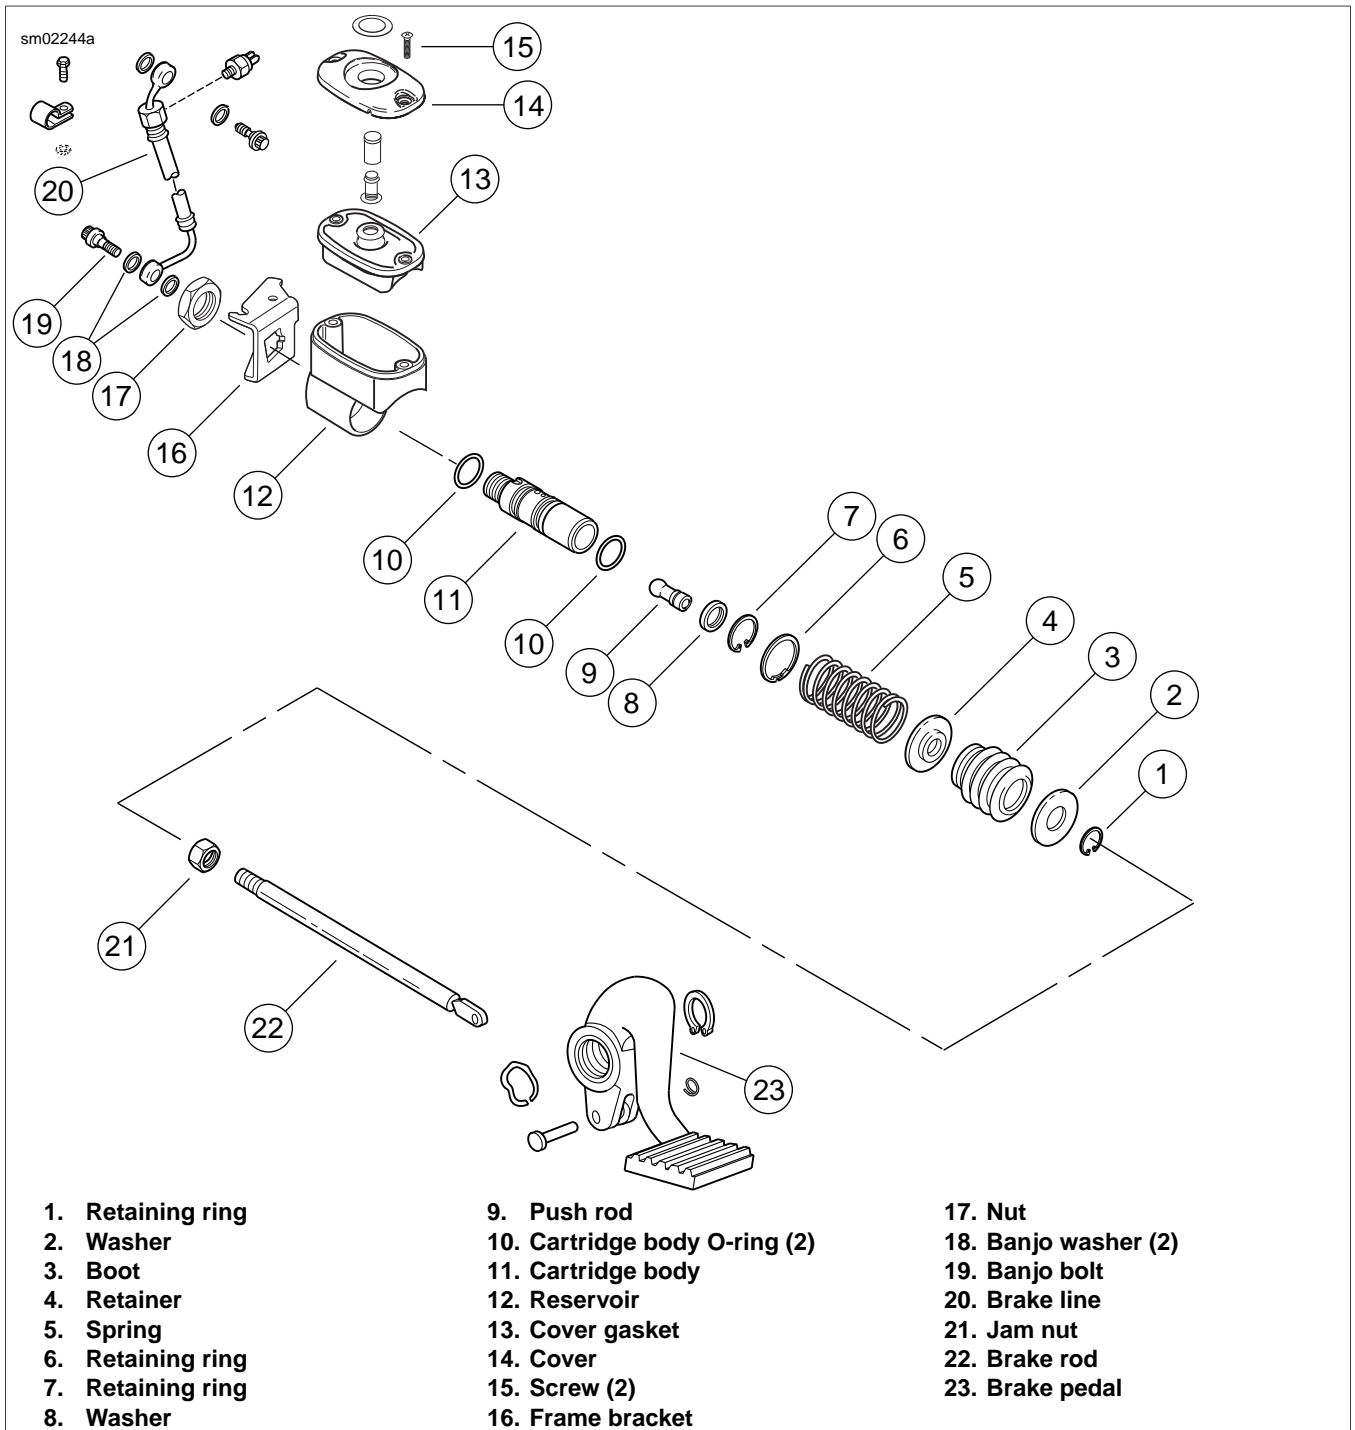

Figure 2-74. Rear Brake Master Cylinder
1. See Figure 2-74. Remove banjo bolt (19) and banjo washers (18). Discard washers.
2. Remove master cylinder mounting nut (17).
3. Loosen jam nut (21) on threaded brake rod (22).
4. Unscrew push rod (9) from brake rod.
2. See Figure 2-74. Thread banjo bolt (19) into the cartridge body (11).
3. Remove boot (3) from groove in master cylinder/reservoir (12). Set master cylinder/reservoir upright with banjo bolt resting on bench and push master cylinder/reservoir down and off the cartridge body.
5. Press down on large washer (2) to compress spring (5), keep spring compressed and remove retaining ring (1) from groove in push rod (9).
6. Carefully release spring and remove washer, boot, spring retainer (4) (inside boot) and spring.
7. Remove and discard retaining ring (7) from bore of cartridge body and remove push rod and washer (8).
2. See Figure 2-74. Inspect reservoir bore (12) for scratches. Replace if scratches are present.
3. Check boot (3) for tears and replace if any exist.
4. Inspect threads on cartridge body (11), push rod (9) and banjo bolt (19). Replace any part with damaged threads. Inspect spring for cracks or broken coils - replace if any exist.
5. Carefully remove large O-rings (10) from cartridge body. Do not scratch O-ring grooves. Clean grooves with soft cotton cloth moistened with alcohol. Inspect grooves for scratches and dirt. Remove dirt or replace cartridge body if grooves are scratched.
1. See Figure 2-74. Lubricate O-rings (10) with D.O.T. 4 brake fluid and install in O-ring grooves on cartridge body (11).
2. Lubricate bore of master cylinder/reservoir (12) with D.O.T. 4 brake fluid.
4. Thread banjo bolt (19) into cartridge body and stand master cylinder upright with banjo bolt resting on bench.
5. Place washer (8) on push rod (9).
6. Place a **new** retaining ring (7) on push rod. Insert ball-end of push rod into piston. Push piston downward with push rod until washer is properly seated in the cartridge bore.
9. Install retaining ring (6) in groove on cartridge body.
10. Install on push rod, spring (5), spring retaining washer (4) (large cupped side toward spring), boot (3) with drain hole down, and washer (2).
11. Press down on washer and install retaining ring (1) in push rod groove.
1. See Figure 2-74. Guide threaded end of master cylinder/reservoir (12) through hole in bracket (16). Make sure the square body of the master cylinder/reservoir is engaged in the square hole of the mounting bracket.
2. Install nut (17) and tighten to 30-40 ft-lbs (40.7-54.2 Nm).
3. Thread push rod (9) fully onto brake rod (22). Do not tighten jam nut (21) at this time.
4. Lubricate new steel/rubber washers (18) with D.O.T. 4 BRAKE FLUID. Install brake line (20) using banjo bolt (19) and new steel/rubber washers (18). Position brake line and tighten banjo bolt to 21-25 ft-lbs (28.5-33.9 Nm).